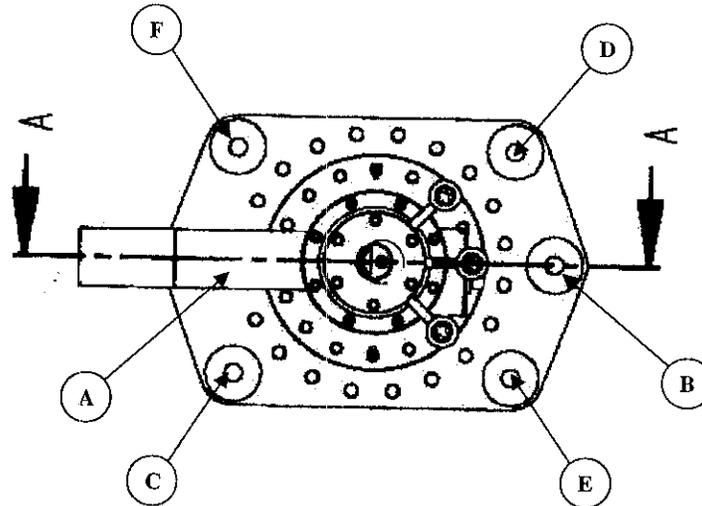

Figure 1.32.2 The specified sequence for tightening the Belleville washer assemblies.
1.32.4 Using the sequence A through F in Figure 1.32.2, sequentially tighten the loading nuts 1/4 turn until the total compression is 1.8 mm at each of the six locations. As each loading nut is tightened 1/4 turn, check off the appropriate line.